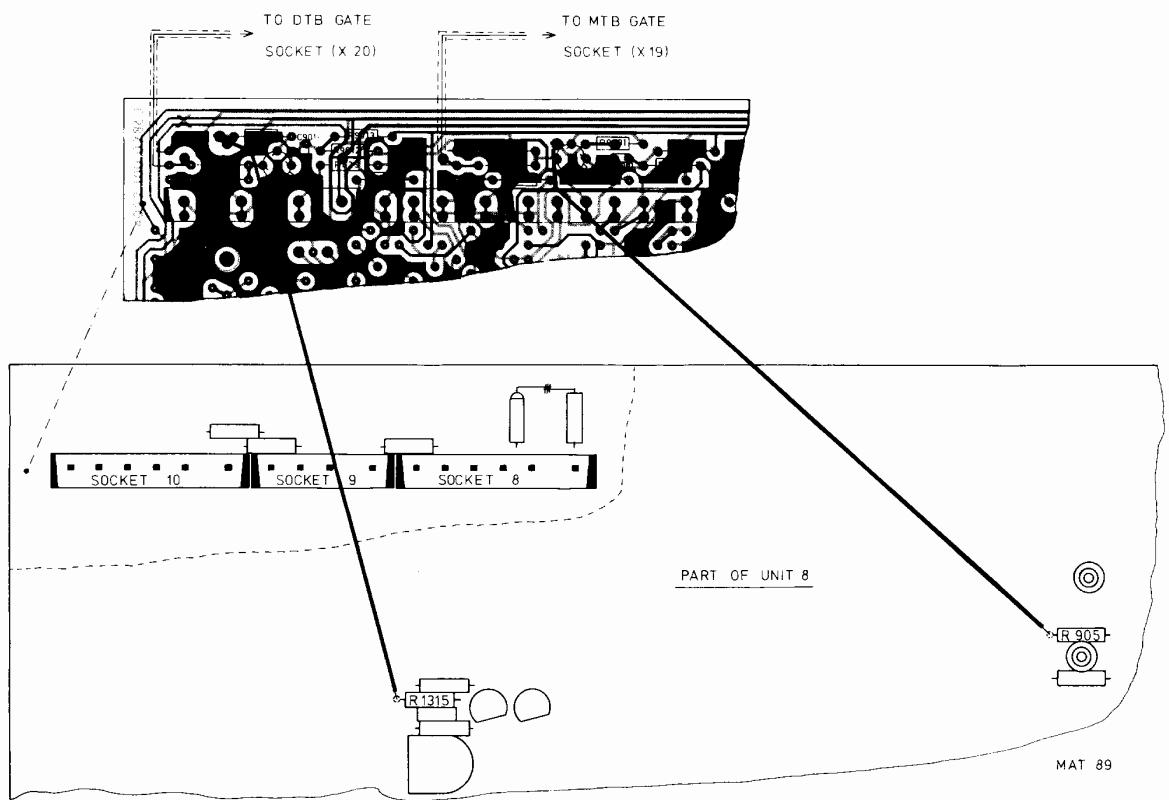

Fig. 3.35. Mounting the components and the cables
- Fit the resistors, capacitor and transistor on unit 8 as indicated in Fig. 3.35.
- Connect R905 (unit 8) via a wire to R9001 (unit 8) as indicated in Fig. 3.35.
- Connect one end of the coaxial cable to the points on unit 8 as indicated in Fig. 3.35 and connect the other end of this cable to the BNC connector on the rear panel.
- Connect R1315 (unit 8) via a wire to R9011 (unit 8) as indicated in Fig. 3.35.